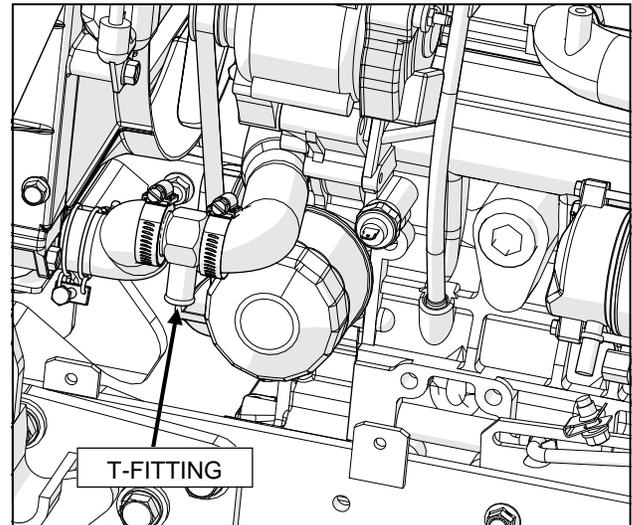

Figure 17.5 (Install T-Fitting in Lower Hose)
- 17.5** Place the two 1.5" hose clamps on either side of the cut lower hose and install the T-Fitting pointing down. See Figure 17.5. Tighten the hose clamps.